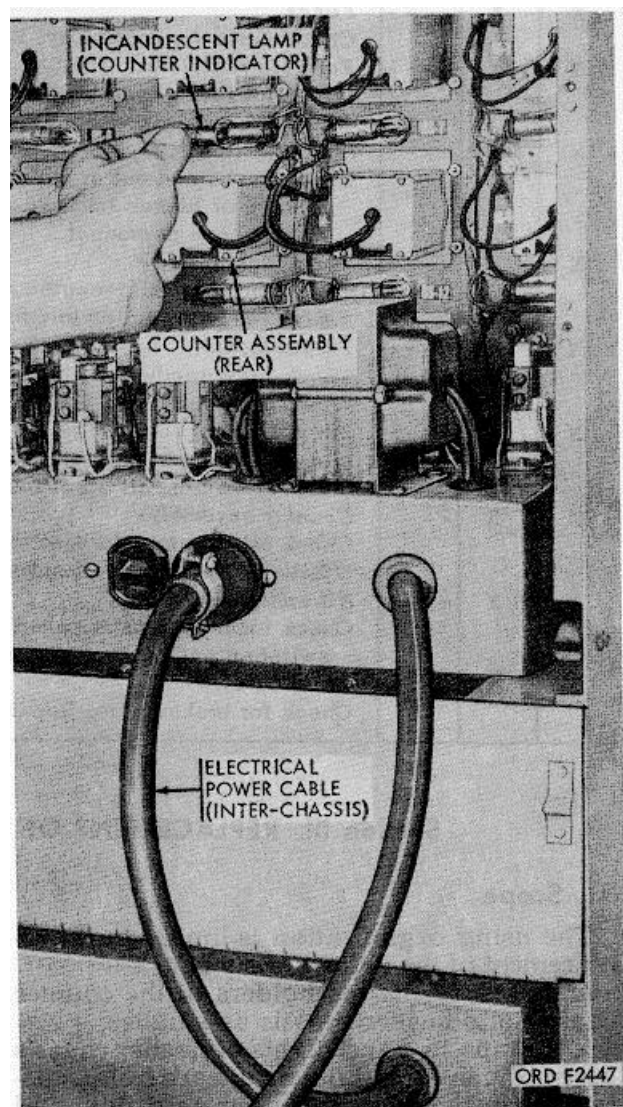

Figure 16. Removing or installing counter indicator light lamp.
- (2) Remove three screws from each side of top rear panel of the cabinet assembly, and remove top rear panel.
- (3) Exert a slight pressure upon burned out lamp to force it into socket and then remove by turning it counterclockwise (fig. 16).
- (4) Install new lamp 6240-155-8706 into light socket by inserting base of lamp into socket, as far as it will go, turn it clockwise and release pressure on lamp.